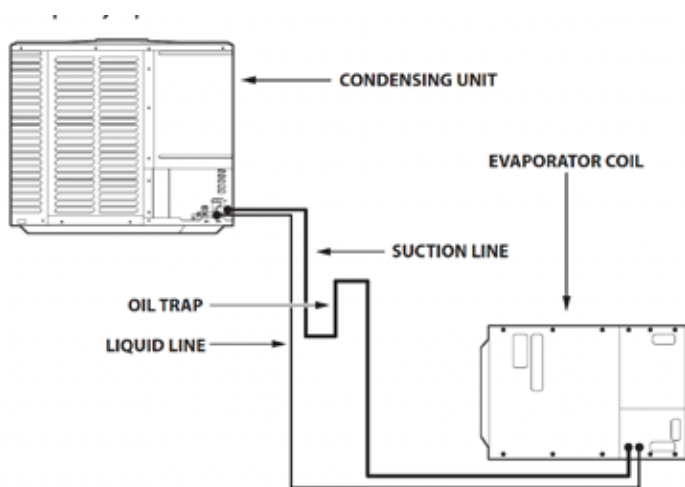

Figure 7. Evaporator Below Outdoor Unit Piping - NAS Series Only
The MS Series air handlers may be converted to the downflow configuration using a required downflow conversion kit by following the instructions below (See Figures 7 and 8).
3. Remove indoor coil assembly with drain pan by sliding out the front of the air handler as shown in the Figure 7.